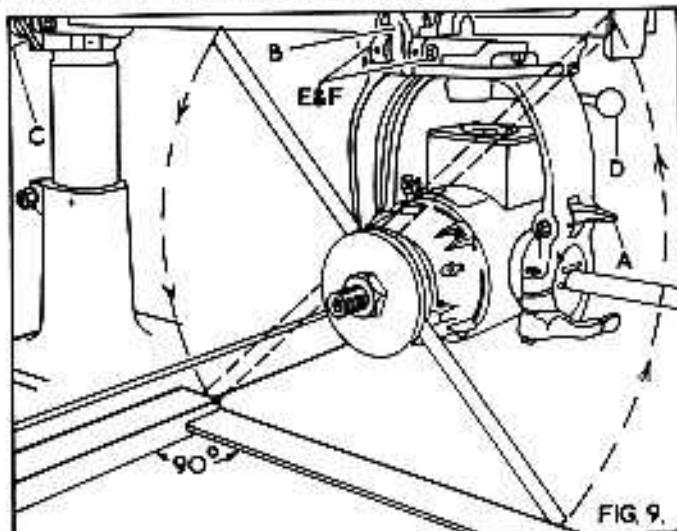

FIG. 9.
4. Lift arm locating latch "C" in Fig. 9 and swing arm to extreme ends of the table checking that clearance between rod and table remains constant.
To check this alignment place a steel rule or some other similar straight edge between the saw flanges as shown in Fig. 9 and a steel square against the fence. Rotate the steel rule from front to rear. If adjustment is necessary, loosen stirrup locking handle "D", and disengage the stirrup locating latch "B", set correctly, then relock in position with lever "D". Adjust the aerotight nuts "E" and hexagon locknuts "F" until the latch "B" locates accurately in the slot in the stirrup.